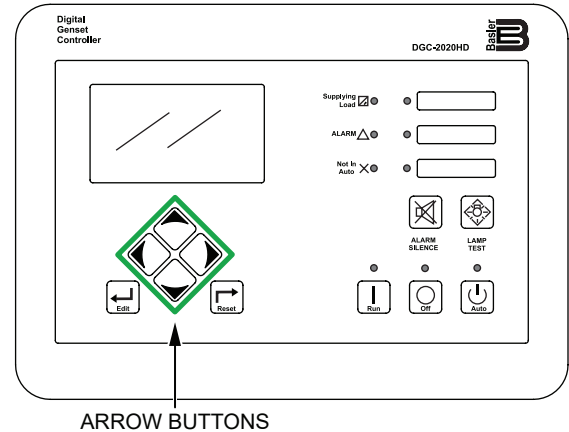

Figure 87. Digital Controller (Arrow Buttons)
2. Use the **Arrow buttons** (Figure 87) to navigate to the **J1939 ECU menu** (Metering->J1939 ECU). This will allow the operator to perform the following diagnostics: